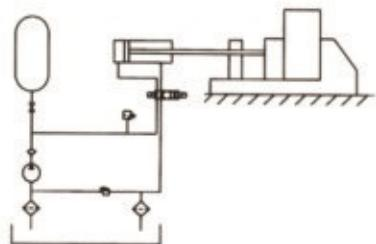

图6 Fig.6
5、当长时间需要恒定静态压力时，蓄能器是必不可少的，因为它将补偿由于接头、密封等渗漏而造成 的压力损失，而且能平衡在循环运行过程中可能产生的压力波动。典型用途为夹紧系统（如图6）、负载平台、筑路压力机润滑系统等。
As a constant static pressure is required for a long period, an accumulator is indispensable as it will compensate for pressure loss due to leakage through joints, seals etc. as well as balancing pressure peaks which may occur during the operating cycle. Typical applications are found in closing system(Fig.6), loading platforms, curing presses, machine tools, lubricating systems, etc.